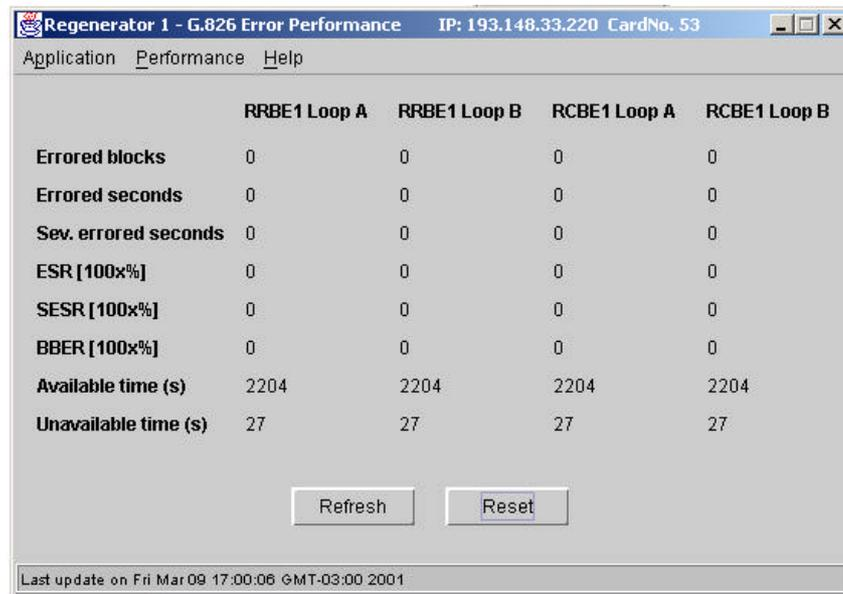

Figure 21: G.826 Performance Measurements with Regenerators
By following these steps we can see the current state of the Regenerator (if one is present) and any errors, as shown in Figure 21. If we select the item 2Mbits E1, this will show the inbound signal on the Local and Remote boards, as shown in Figure 22.